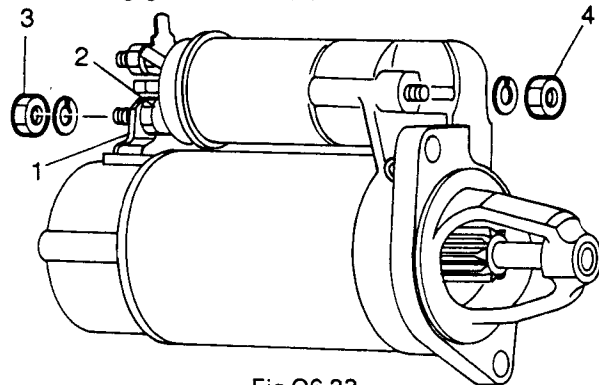

Fig O6.23
- (5) Refer to Fig O6.23. Pull back the connecting link (1) and lower the solenoid into position on top of the starter motor.
- (6) Engage the solenoid terminal STA over the connecting link (2).
- (7) Replace the nut and washer (3) on terminal STA.
- (8) Fit the two nuts and washers (4) securing the solenoid to the fixing bracket and tighten to 6,1 N.m.
(9) Drive a new Spire retaining ring onto the armature shaft into a position which provides a maximum of 0,25 mm clearance between the retaining ring and the bearing bush shoulder.
(10) Replace the end cap to the commutator end cover.